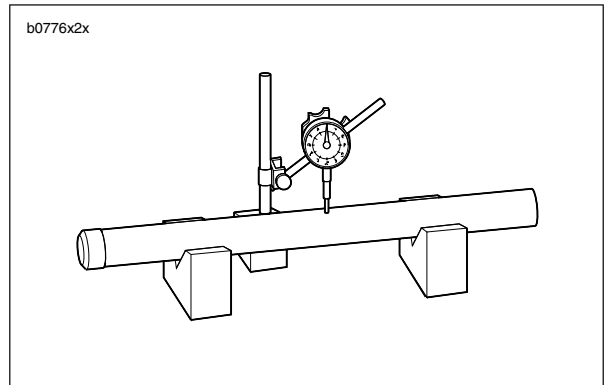

Figure 2-72. Slider fork Runout
3. Check the slide bushing (21) and the guide bushing (22) for excessive wear or scratches. Replace if damaged or worn.
4. Replace the stopper ring (19) if distorted.
5. Measure spring (16) free length. Replace springs shorter than the service wear limit of 18.77 in. (476.7 mm).
6. See Figure 2-72. Measure slider fork runout. Replace pipe if runout exceeds the service wear limit of 0.008 in. (0.2 mm).